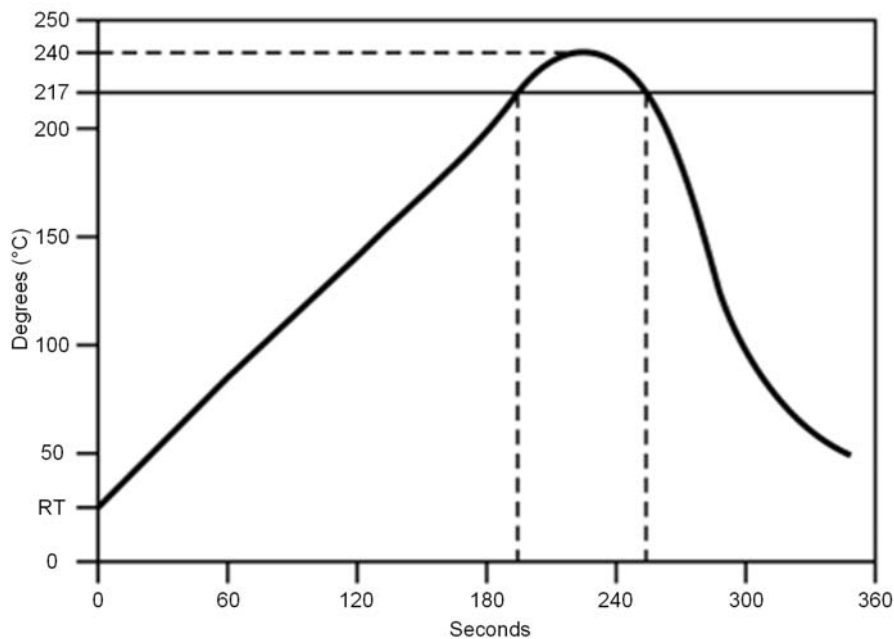

Figure 10-1. Temperature Profile for Evaluation of Solder Heat Resistance of a Component (at Solder Joint)
- Temperature measurement: Thermocouple d = 0.1mm to 0.2mm CA (K) or CC (T) at soldering portion or equivalent method
- Allowable reflow soldering times: 2 times based on the reflow soldering profile (see Figure 10-1)
- Temperature profile: Reflow soldering will be done according to the temperature profile (see Figure 10-1)